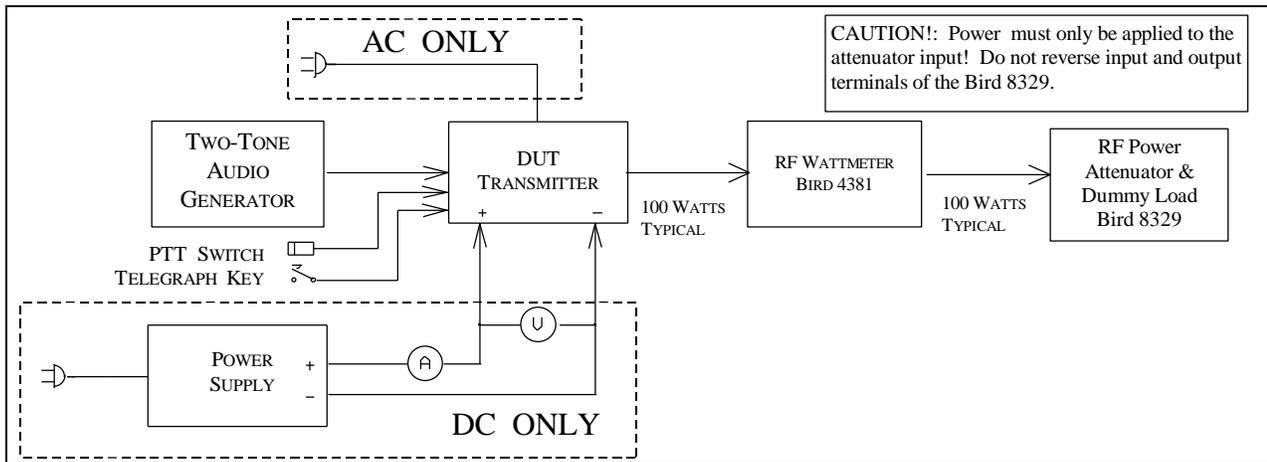

Fig. 6-1 — Chamber Test Hook-up
6.1.2 Test hook-up (See Fig. 6-1)
6.2.2 Test hook-up (See FIG. 6-1)